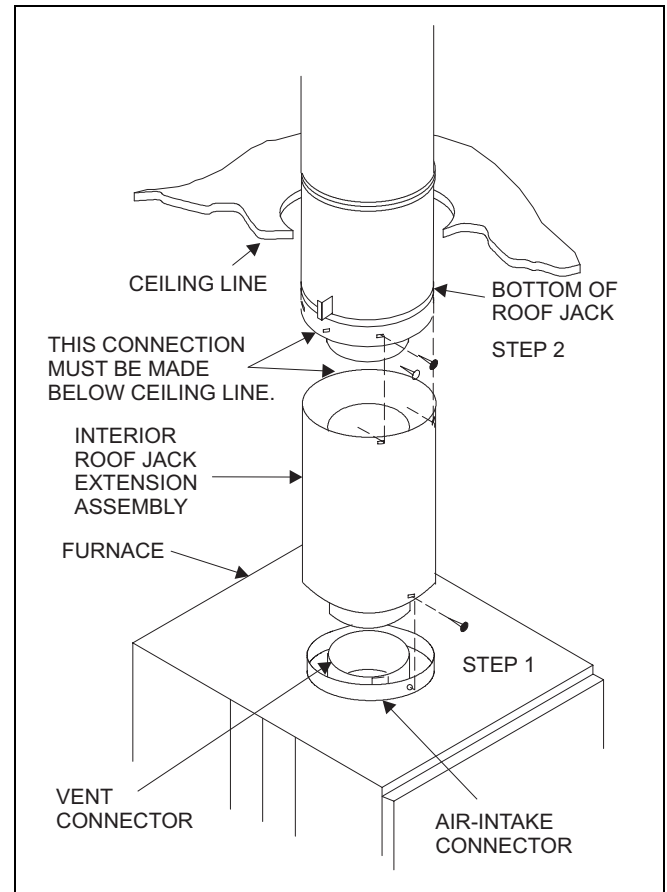

FIGURE 1
1. Place Interior Roof Jack Extension on top of furnace and engage Vent Connector and Air-Intake Connector. Align screw holes. See Figure 1.